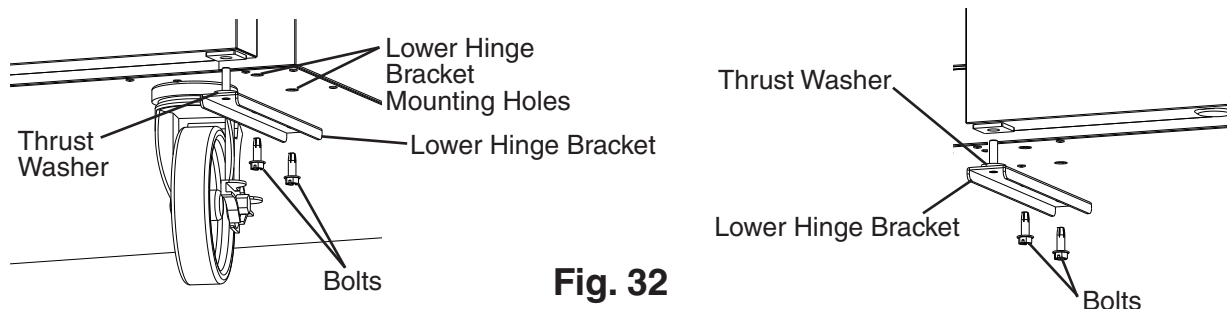

**Fig. 32**
- 12) Remove the lower hinge bracket. See Fig. 32. Be sure to leave the thrust washer in place.